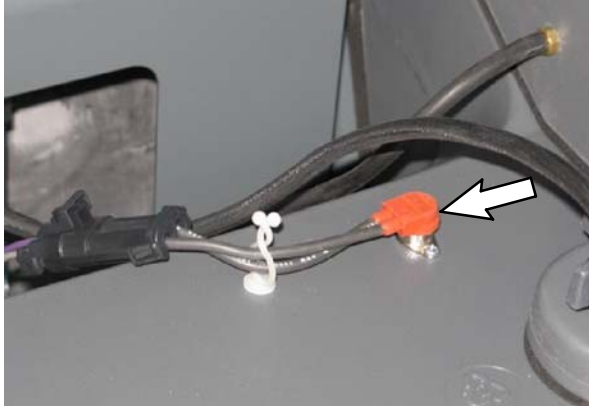

FIG. 2 - All Machines
- Use two pan screws (6) to install the new temperature switch (2) onto the shaker assembly top cover. Refer to Fig. 2.